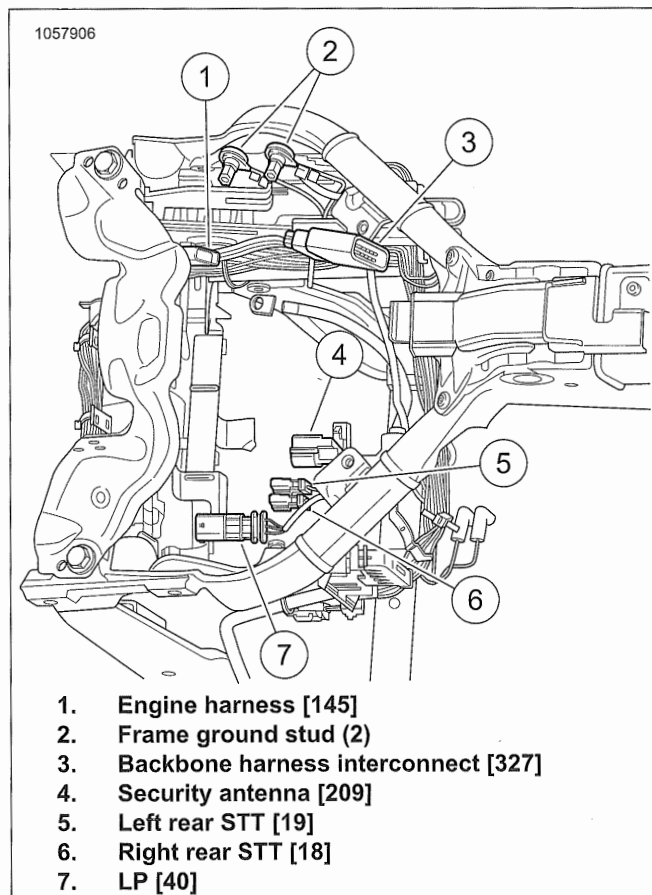

Figure 7-156. Main Harness Under Seat
1. See Figure 7-156. Disconnect backbone harness interconnect [327] (3).